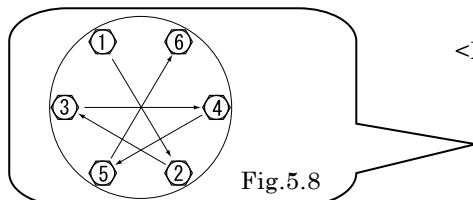

Fig.5.8
- Tighten the bolts gradually in a diagonal sequence with even torque. [Fig.5.8].
- Install the O ring (cf. Fig.5.8).